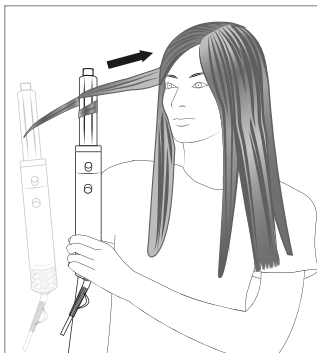

Fig. 3
- 5) Hold the curling attachment **8/9** vertical and move it slowly up to the hair roots without turning it. Pull on it while doing so to maintain some tension on the hair strand (see Fig. 3).